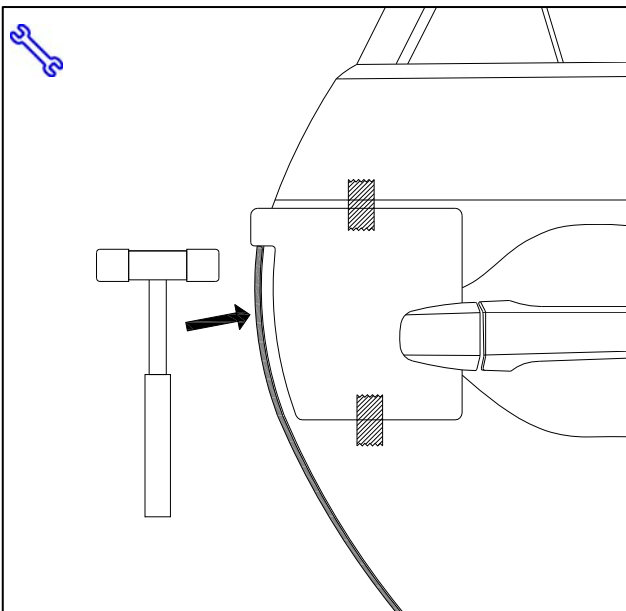

Fig. 1-11
- (n) While holding DEG in proper alignment with one hand, use **soft side of the rubber mallet** to begin tapping the channel onto the door edge starting at the top of the DEG. (Fig. 1-11),